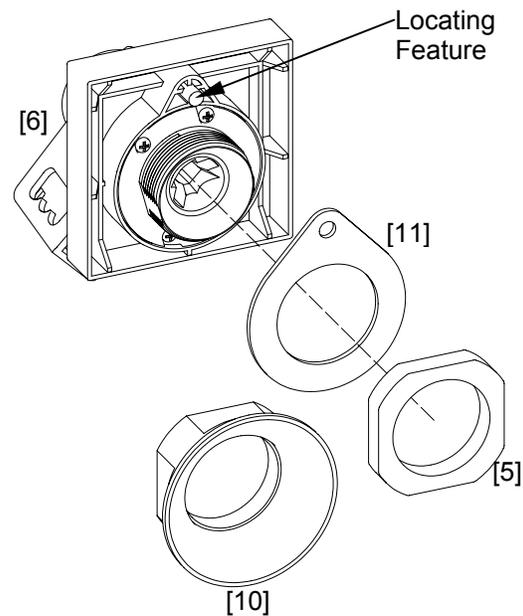

Figure 11. Installing the rotary handle assembly.
2. Place the rotary handle assembly [6] on the door with the locating feature, shown in Figure 11, placed in the small hole drilled in step 1.